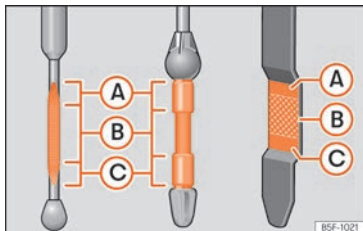

Fig. 202 Engine oil dipstick.
- Then pull it out once more and check the oil level »» **Fig. 202**. Top up with engine oil if necessary.
If the oil level is above area »» Fig. 202 Ⓐ, do not start the engine. This could result in damage to the engine and catalytic converter. Contact a specialised workshop.
The oil level must never be above zone »» Fig. 202 Ⓐ. Otherwise oil can be drawn in through the crankcase breather and leak into the atmosphere via the exhaust system.